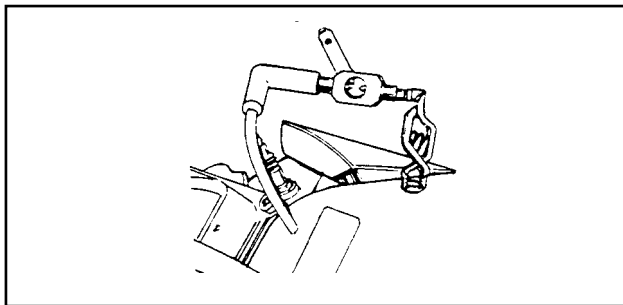

Figure 8. Testing for Spark
3. Connect the Spark Plug high tension lead to a spark tester (Figure 8) and the spark tester clamp to ground.